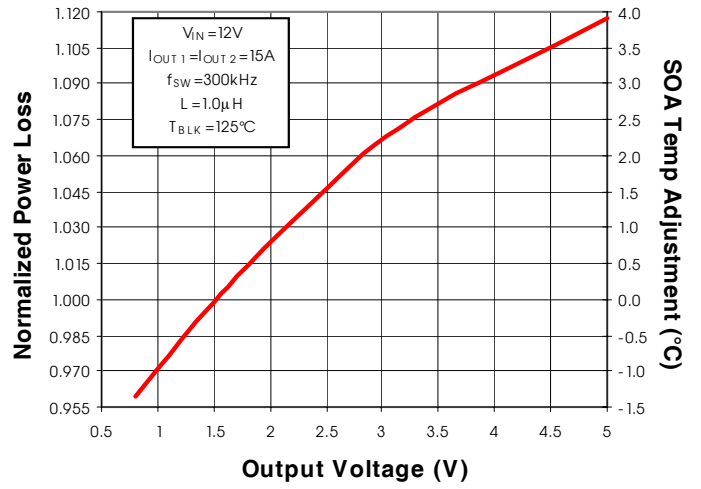

Fig. 5: Normalized Power Loss vs.  $V_{OUT}$
(Fig. 5) Normalized power loss for output voltage  $\approx 0.98$
- (Fig. 5) Normalized power loss for output voltage  $\approx 1.075$
- (Fig. 5) Normalized SOA Temperature for output voltage  $\approx -0.6^{\circ}C$
- (Fig. 5) Normalized SOA Temperature for output voltage  $\approx 3.9^{\circ}C$